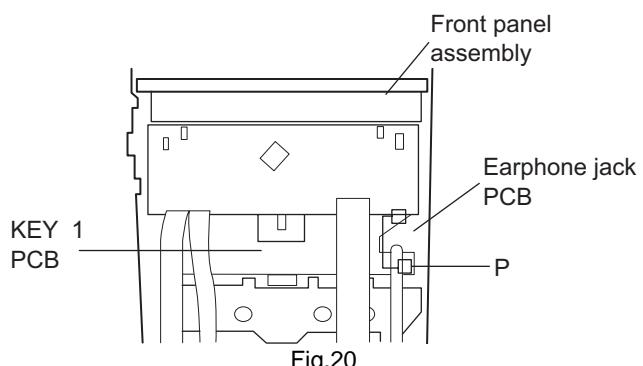
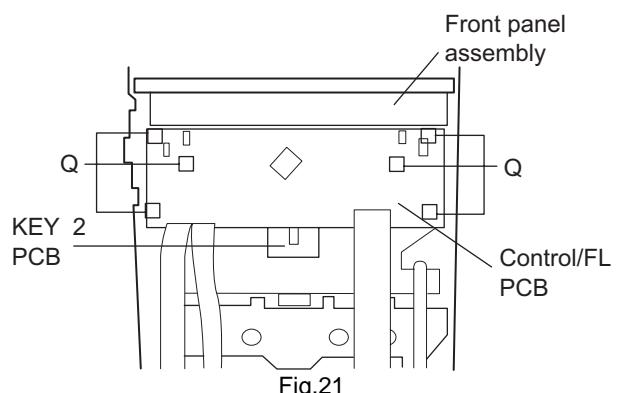

Fig.20
Fig.21
(See Fig.20)
(See Fig.21)
(See Fig.20 to 23)
- (2) Remove six screws **Q** retaining the front panel assembly.(Fig.21)
- (3) Remove the control/FL board.
- (4) Remove eleven screws **R** retaining the switch (key 1) board.(Fig.20)
- (5) Remove two screws **S** retaining the sound mode and CD function (key 2) switch board.(Fig.21)